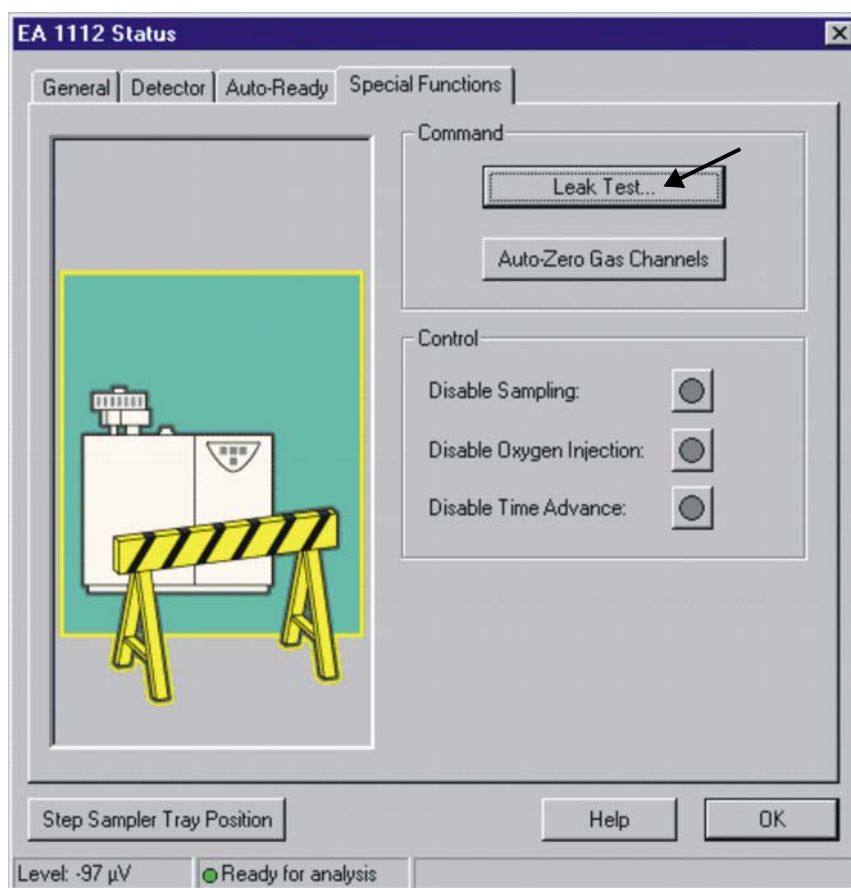

Figure 3-29. EA 1112 Status - Special Functions tab
1. Select the **Special Functions** tab. Figure 3-29 will be displayed.